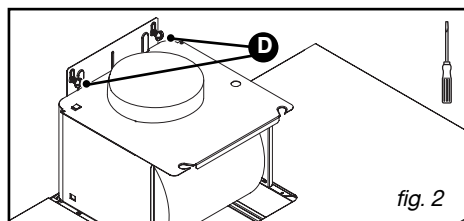

fig. 2
– Hang the suction hood on the two screws (fig. 2).